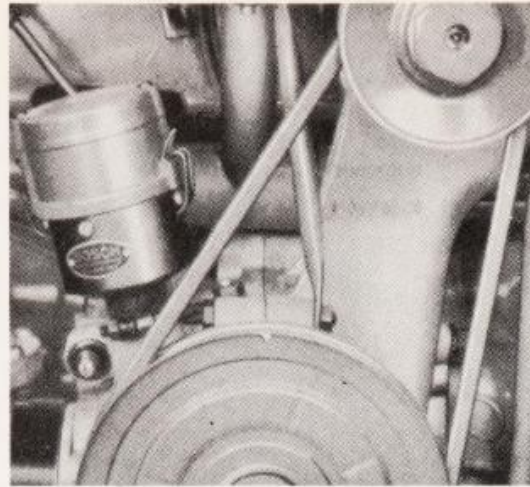

Fig. A-3. Location of timing mark on pulley. If pulley has two marks on it, use left-hand mark for valve adjustment.
- 4 - Also note that timing mark on crankshaft pulley is in line with vertical joining faces of crankcase, Fig. A-3.